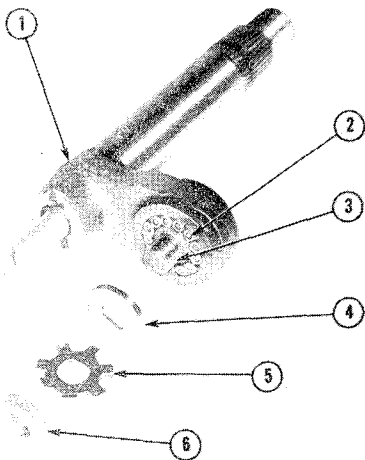

Figure 8-10
Remove nut (6, Fig. 8-10), pronged washer (5) and flat washer (4) from levershaft (1). Disassemble roller bearing unit (3) to replace damaged rollers (2).